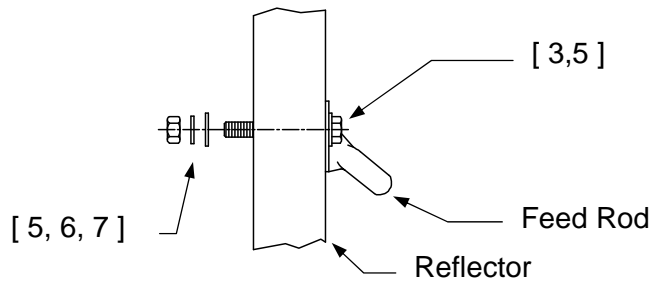

**FIGURE 2**
A). Attach right and left feed rods to the reflector with (items 3, 6, 7 ) and with (2) of ( item 5 ). See Figure 2 and Detail A.